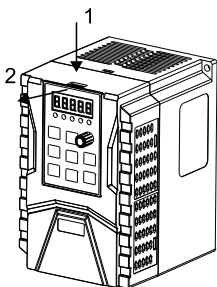

Fig 3-4 Keypad disassembly
A. Method of keypad disassembly is shown as fig 3-4: press keyboard elastic clasp in direction 1 and lift keypad in direction 2.